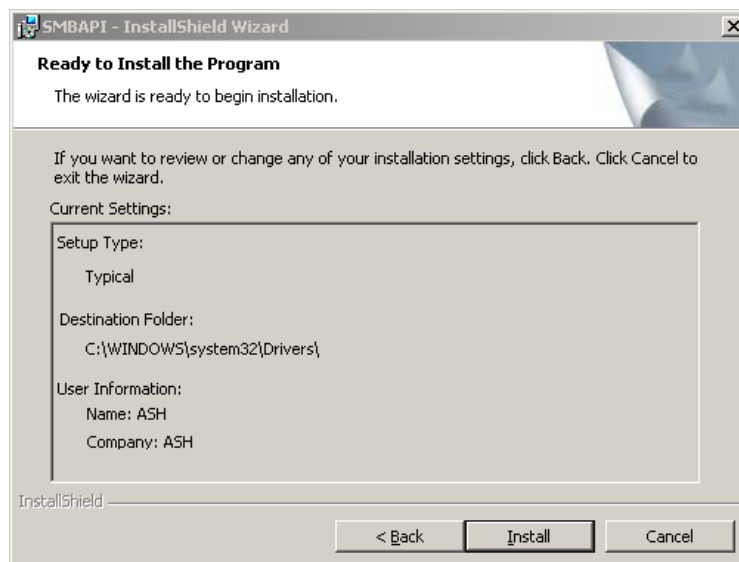

Figure 8-39: Ready to Install
Step 7: The **Ready to Install** screen in **Figure 8-39** appears.